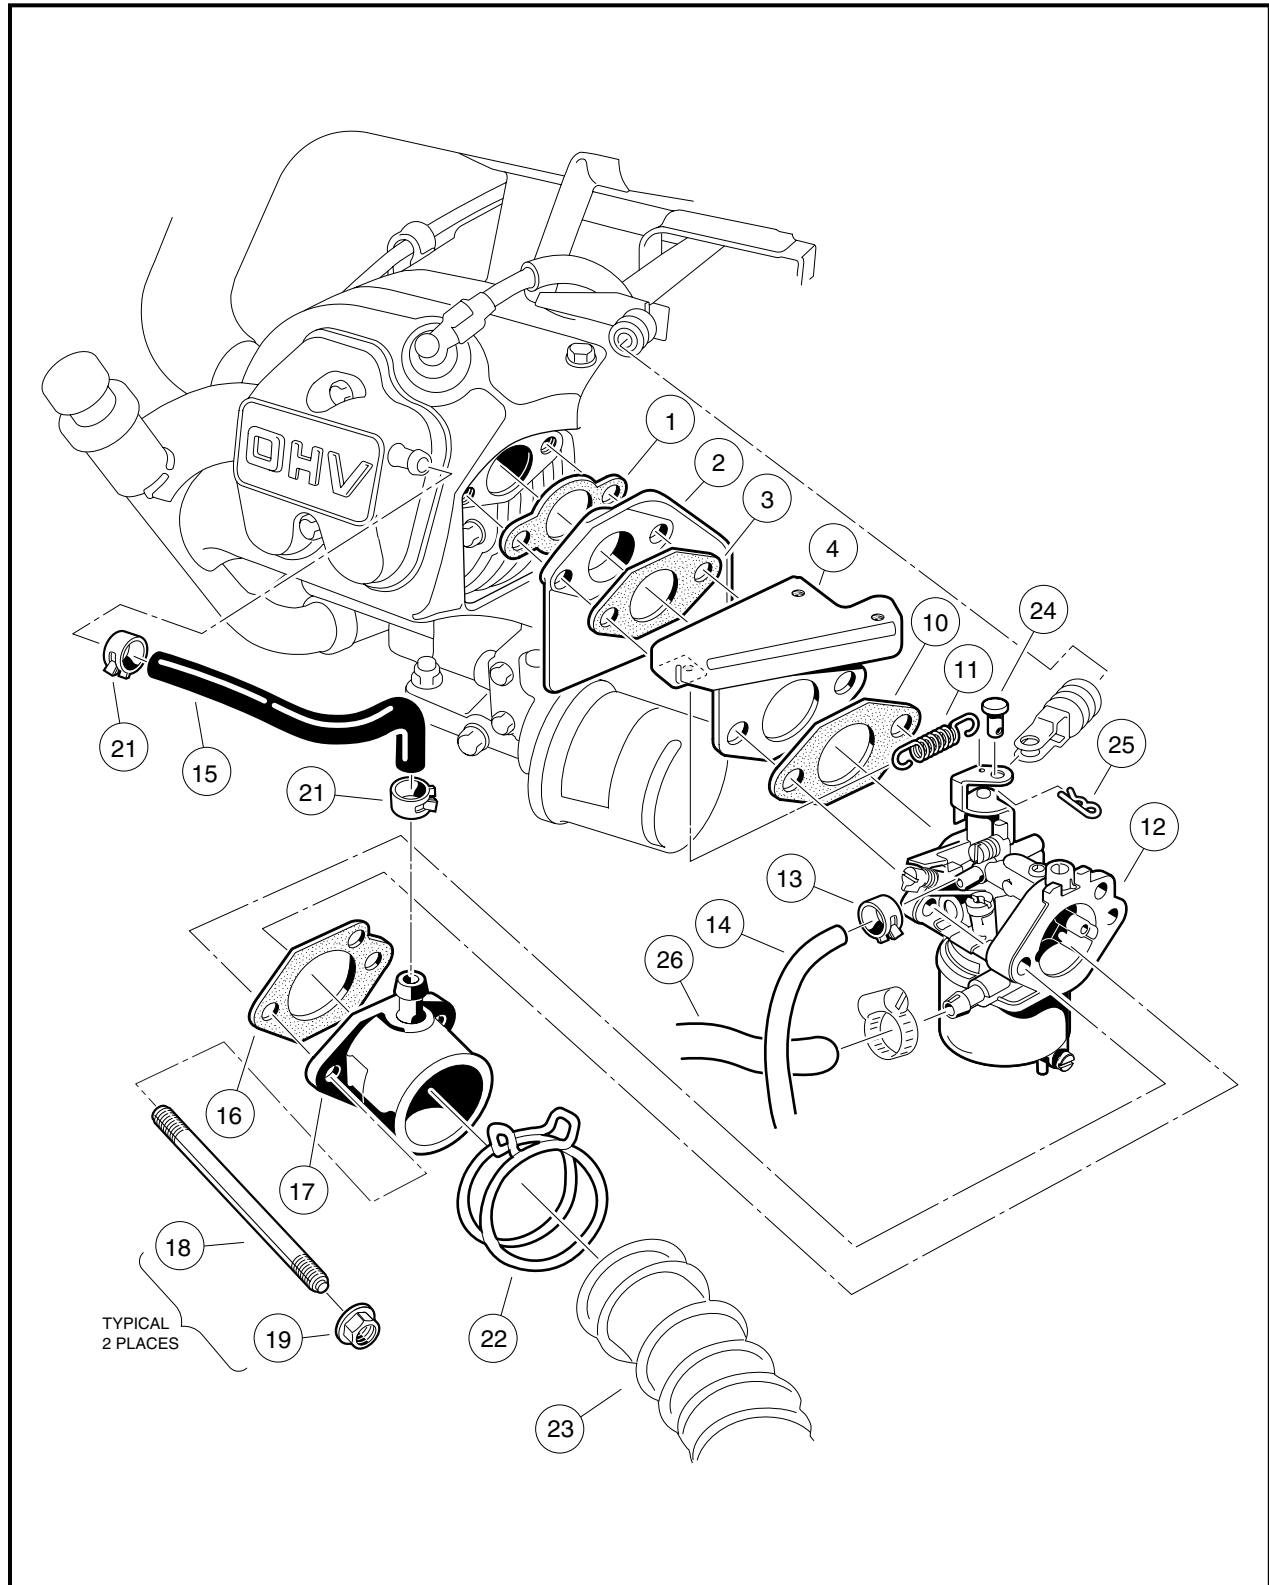

Figure 14-2 Carburetor Installation
1. Remove the carburetor (**Figure 14-2, Page 14-4**).
- 1.9. Remove the carburetor retaining nuts (19), intake pipe (17), and carburetor (12). See following **NOTE**.
**NOTE:** Note the orientation of the gasket (16), between the carburetor intake pipe (17) and the carburetor body (12) so that it can be replaced in the same orientation (**Figure 14-2, Page 14-4**).
12. Loosely attach the throttle return spring (11) to the carburetor throttle (12) and throttle bracket (4).
13. Install the carburetor (12), gasket (10), throttle spring (11), bracket (4), gaskets (1) and (3), and carburetor insulator (2) onto the manifold bolts (18) (**Figure 14-2, Page 14-4**).
14. Install the intake pipe gasket (16) (check for proper orientation) and intake pipe (17).
15. Attach the carburetor retaining nuts (19) and tighten them to 50 in-lb (5.7 N·m).
17. Connect fuel supply line (26) and tighten screw clamp to 9 in-lb (1.0 N·m) (**Figure 14-2, Page 14-4**).
18. Install carburetor vent line (14) and clamp (13).
19. Install the governor cable clevis pin (24) and cotter pin (25).
20. Install the intake hose (23) and secure with hose clamp.
2. Remove the cotter pin (25) and clevis pin (24) at the carburetor throttle bracket (**Figure 14-2, Page 14-4**).